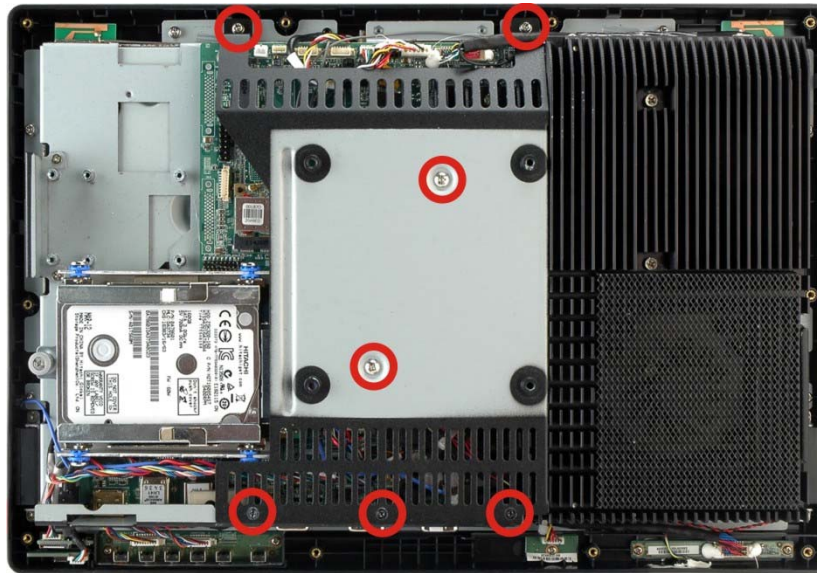

Figure 7-2: Internal Cover Retention Screws
Step 1: Remove the seven (7) retention screws securing the internal aluminum cover to the chassis (**Figure 7-2**).